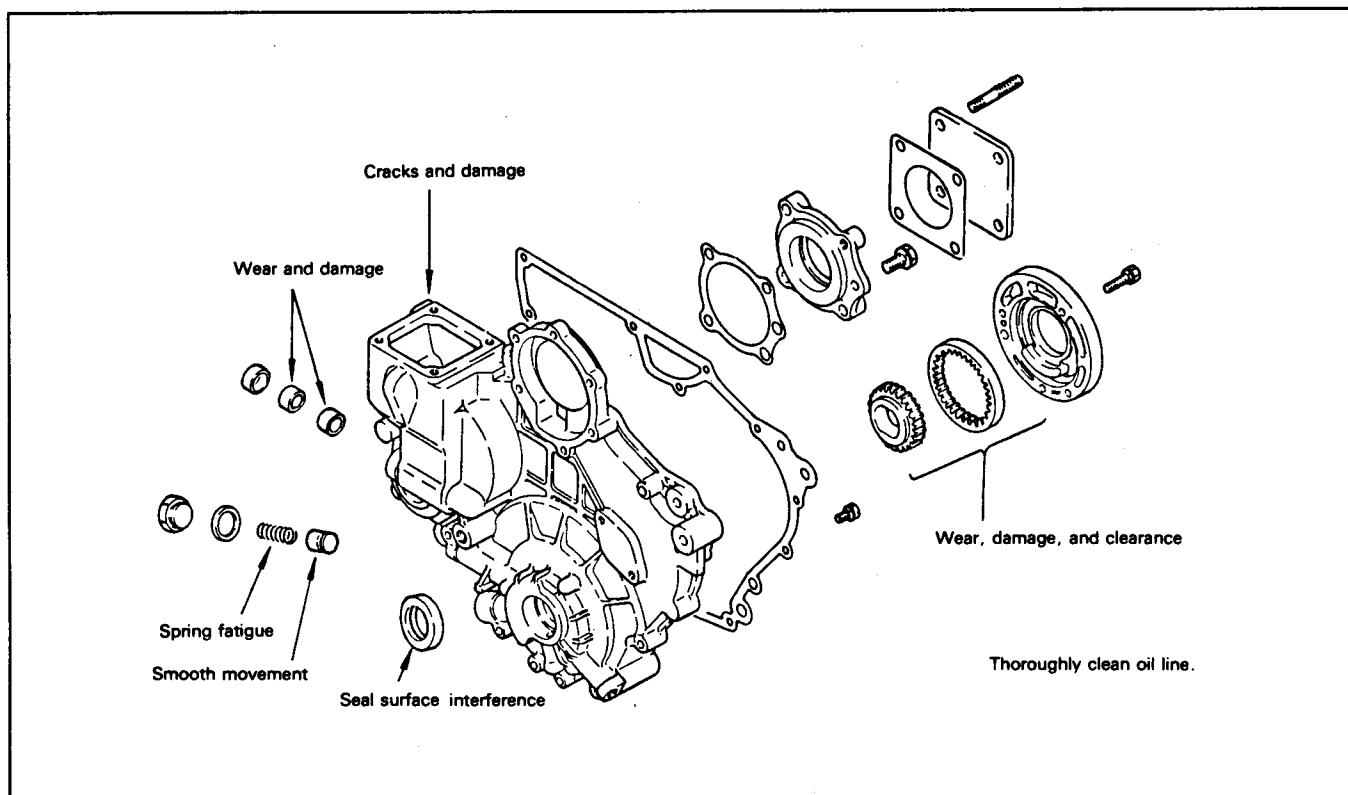

Figure 83
7. Check removed parts for wear or damage (Fig. 83).